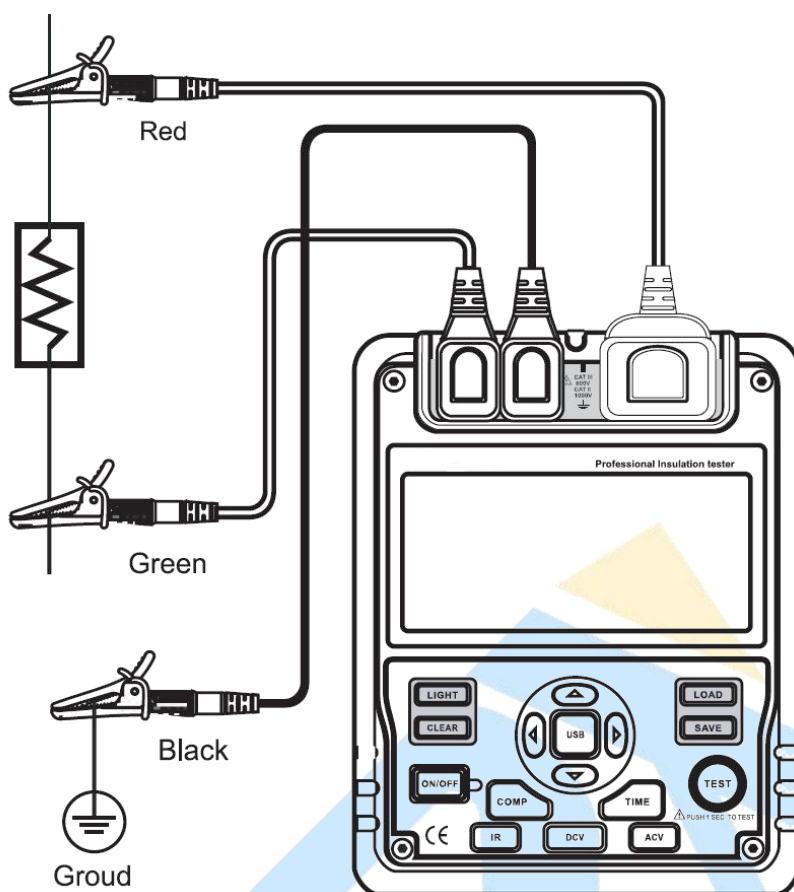

Figure 5
2. Insulation resistance measurement (connection diagram see Figure 5)